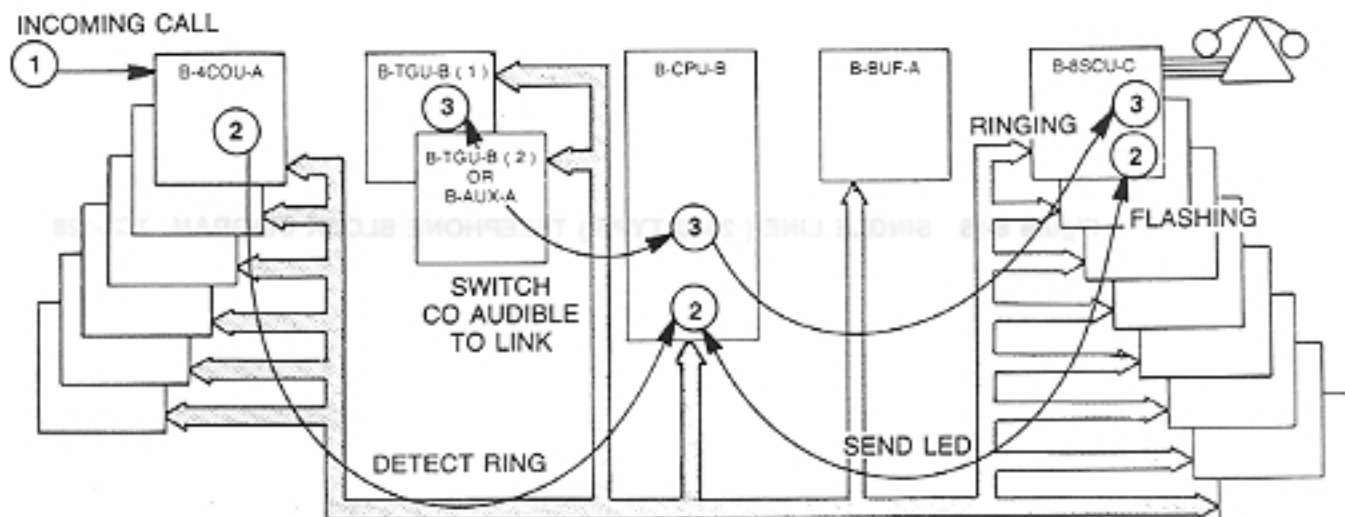

Figure 8-19 RECEIVING AN OUTSIDE CALL, TCX-128 ( Page 1 of 2 )
5.01 An incoming call from the Central Office or PBX will send ringing into the system. This ringing is detected in the B-4COU-A PCB to which the line is connected (Figure 8-19, signal 1). As the B-CPU-B polls the B-4COU-A PCBs, it sees the ring detect, processes it, and sends a flashing LED to all the stations in the system programmed to receive ringing for that line (Figure 8-19, signal 2). On a multibutton telephone, the incoming call will flash the lowest numbered available incoming line key (keys 1 through 5). If the first incoming line key is already flashing with another call, the call will ring on the second key, and so on.
5.02 The B-CPU-B PCB has the responsibility of sending audible ringing onto the station B pairs. The tone used for CO audible is generated on the B-TGU-B PCB, and connected to an on-board DTMF/Tone Matrix. The 280 executive, through the Matrix Control, tells the DTMF/Tone Matrix to connect CO audible to an Intercom link (Figure 8-19, signal 3). The B-8SCU-C PCB connects the station B pair to the ringing link. The 280 also controls the timing (on/off) of the CO audible tone bursts. As long as the multibutton station is idle, ringing will be broadcast from the speaker.